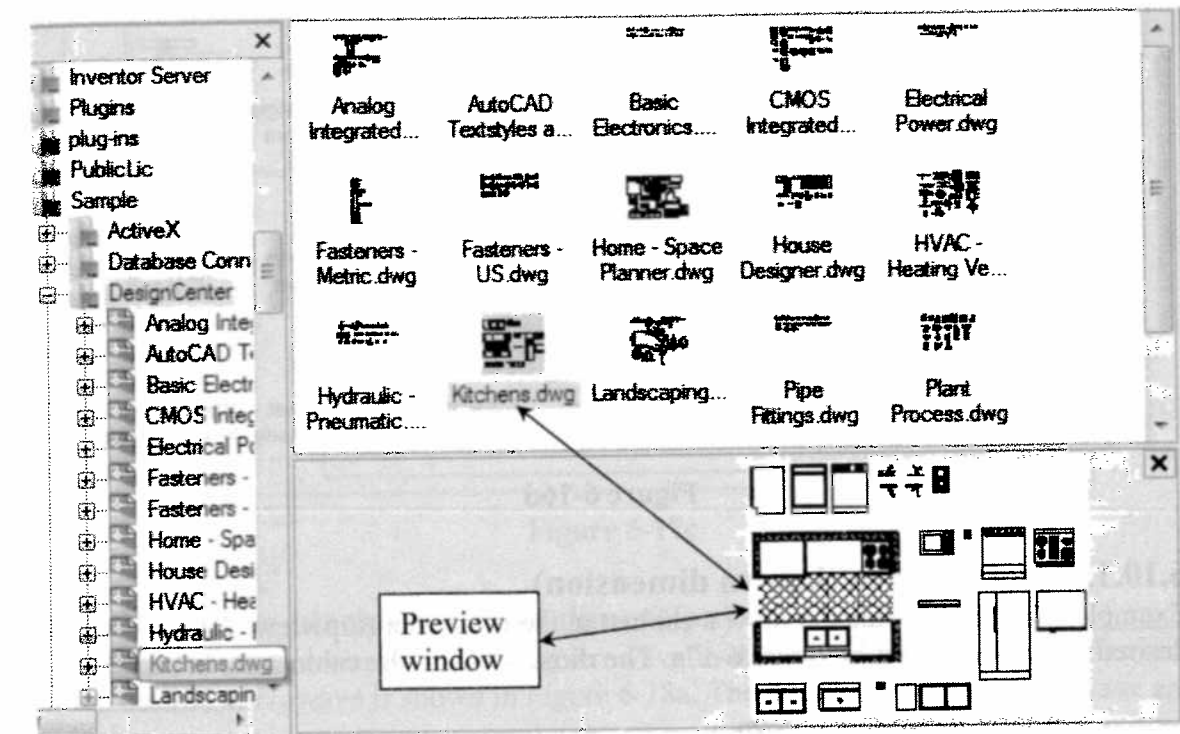
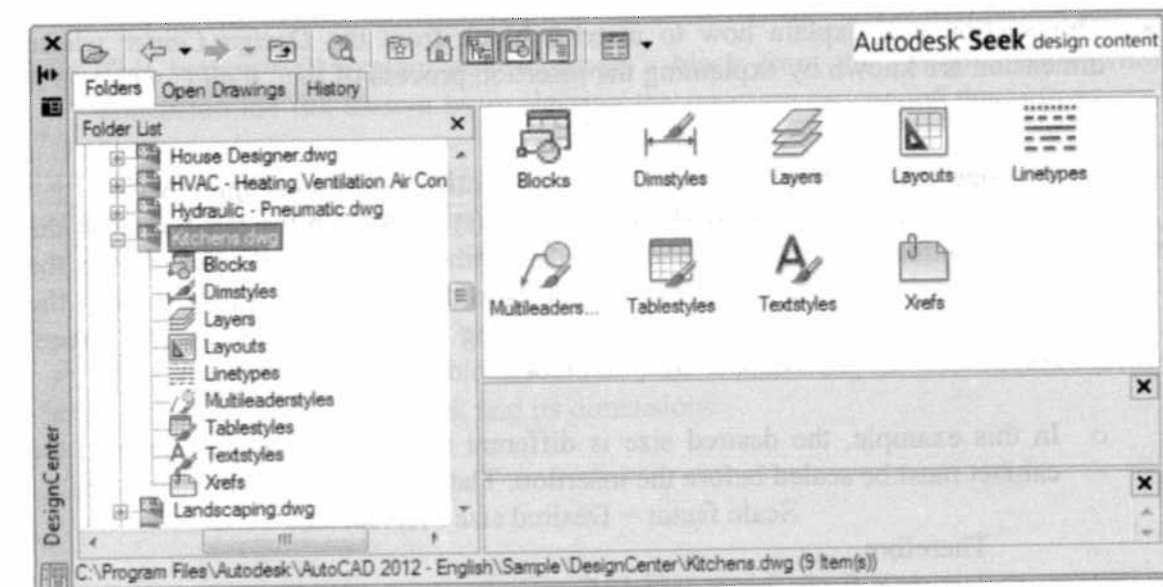

Figure 6-16b
Figure 6-16c
- Click once on the *Kitchens.dwg* icon, the content of the drawing will appear in the preview window, Figure 6-16b.
- Choose the *Kitchens.dwg* option, Figure 6-16b, either double click on the *Kitchens.dwg* icon in the upper right panel of the palette or double click on *Kitchens.dwg* file in the left panel of the palette. The various options are shown in Figure 6-16c.